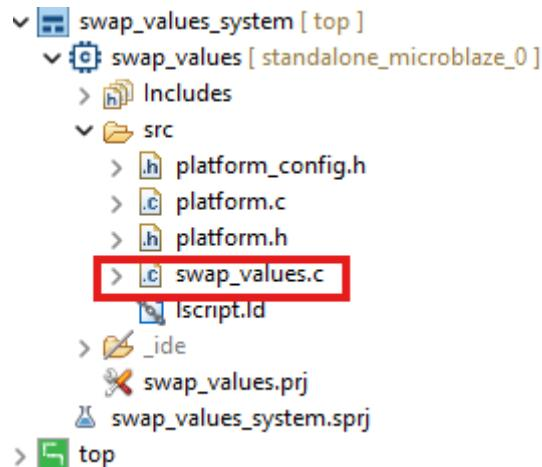

Figure 8
1. As shown in Figure 8, Create a new application with the name `swap_values` and rename `helloworld.c` to `swap_values.c`.